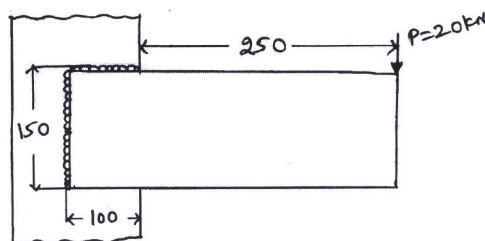

Fig.Q8(a)
- 8 a. A  $16 \text{ mm}$  thick plate is welded to a vertical support by two fillet welds as shown in Fig.Q8(a). Determine the size of weld, if the permissible shear stress for the weld material is  $75 \text{ MPa}$ .